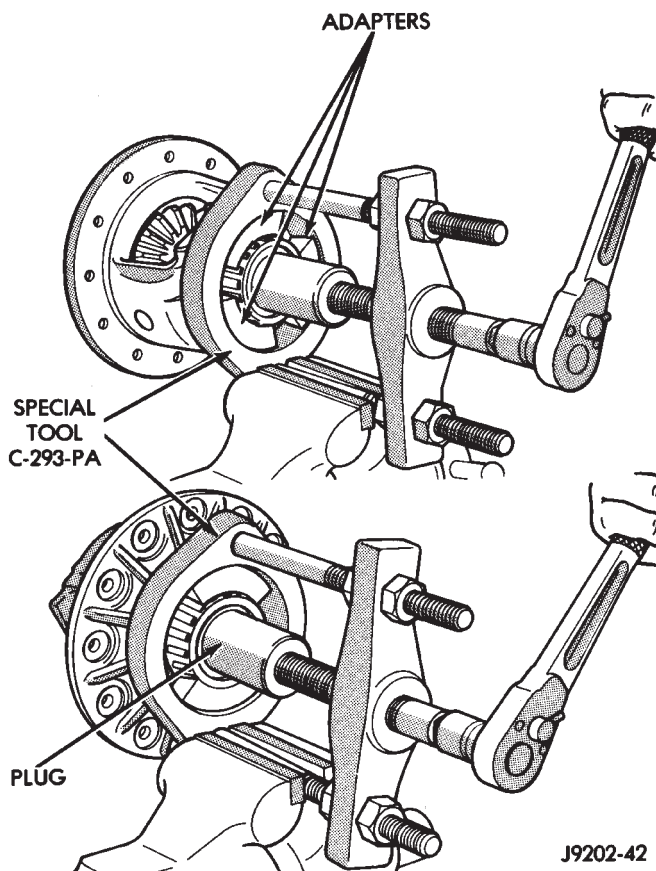

Fig. 16 Differential Bearing Removal
- (1) Rotate side gears until pinion gears are located at the differential case opening. Remove gears.
- (2) Remove side gears and thrust washers.
- (3) Remove differential bearings from the case hubs with Puller C-293-PA, Adapter C-293-48 and Plug SP-3289 (Fig. 16).